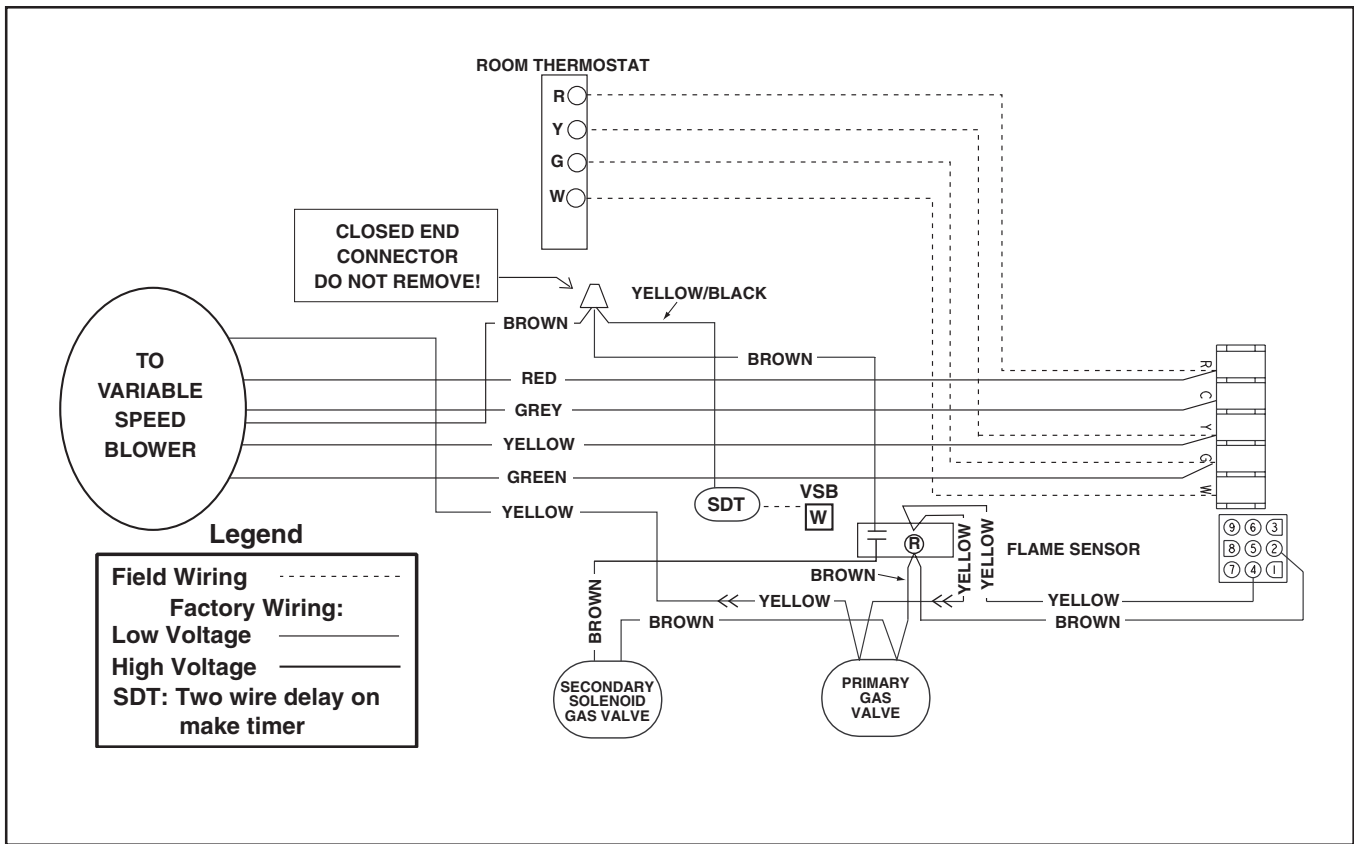

Figure 8e. Timed Two Stage Configuration
5. *Timed staging configuration* – For this installation, the primary and secondary gas valves are connected in parallel with a delay on make timer (two wire style) in series with the secondary gas valve (See **Figure 8e**). **CAUTION: DO NOT CONNECT W2** from thermostat to the furnace wiring when using timed staged configuration. When the primary gas valve is energized, the furnace operates in the low fire mode at a lower blower speed and the timer begins its delay function. If the room thermostat is not satisfied before the timer activates, the furnace will stage to high fire and the blower will operate at a higher speed until the room thermostat is satisfied.